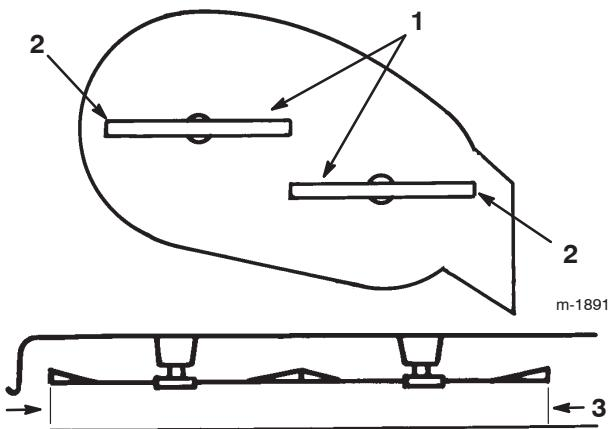

Figure 48
5. Carefully rotate the blades side to side (Fig. 48). Measure between the outside cutting edges and the flat surface (Fig. 48). If both measurements are not within $3/16$ in. (5 mm), an adjustment is required; refer to steps 6 and 7.